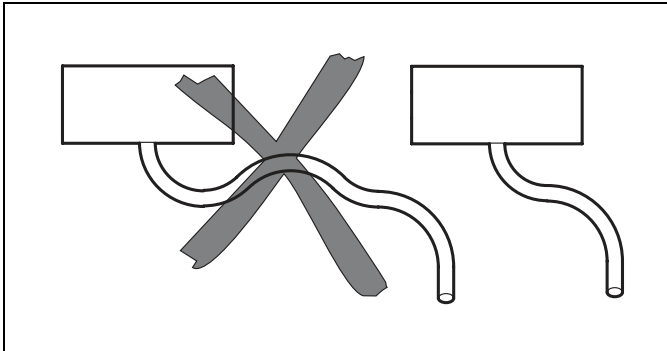

Fig. 32: Prevent the formation of condensate
- The exhaust line should point from the heater downwards to let condensation water escape (see Fig. 32). If this is not possible, a condensate drain hole with a diameter of 4 mm must be drilled at its lowest point.